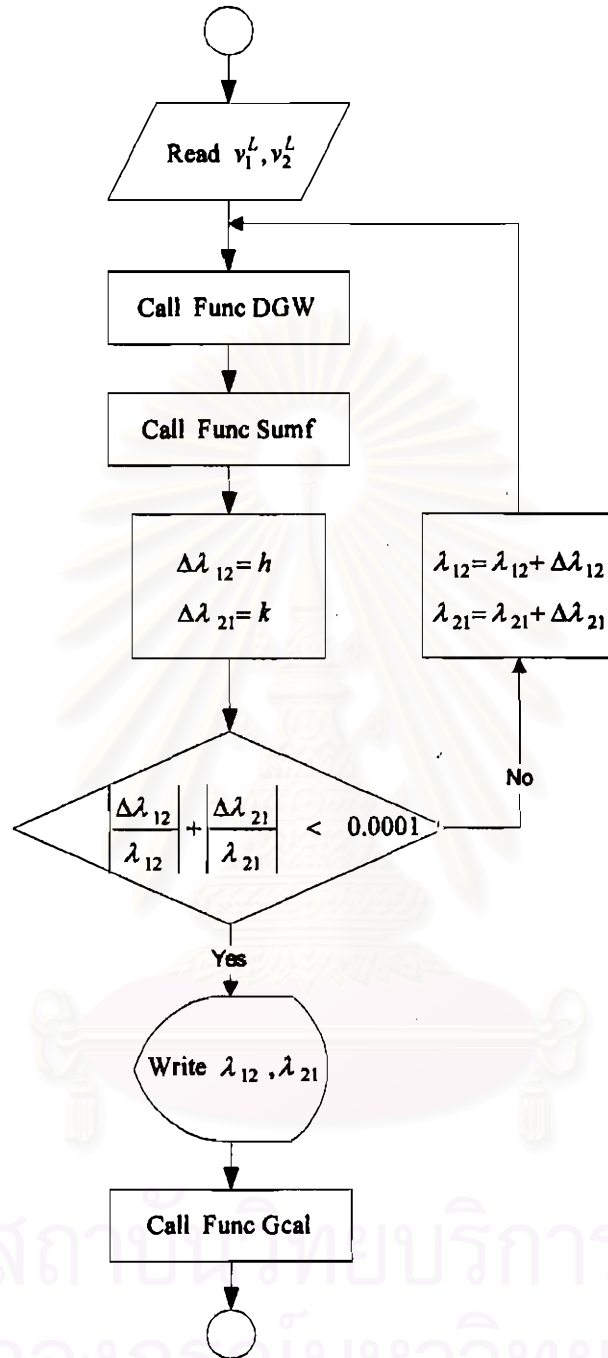

Figure 3.2 A schematic diagram of subroutine Func WilsonG.
2. Calculate parameters and pressures in subroutine by using Newton Raphson method. Figure 3.2 and 3.3 illustrate the flow chart of subroutine Func WilsonP, Func UNIQP, respectively.